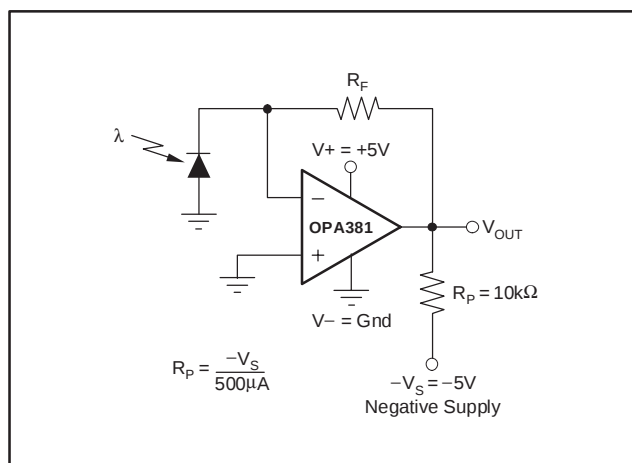

Figure 3. Amplifier with Pull-Down Resistor to Achieve $V_{OUT} = 0V$
(1) High temperature operating life characterization of zero-drift op amps applying the techniques used in the OPA381 have repeatedly demonstrated randomly distributed variation approximately equal to measurement repeatability of $1\mu V$. This consistency gives confidence in the stability and repeatability of these zero-drift techniques.
(2) Tested with output connected only to R_P , a pulldown resistor connected between V_{OUT} and $-5V$, as shown in Figure 3. See also **Applications** section, *Achieving Output Swing to Negative Rail*.
The OPA381 performance results from an internal auto-zero amplifier combined with a high-speed amplifier. The OPA381 has been designed with circuitry to improve overload recovery and settling time over that achieved by a traditional composite approach. It has been specifically designed and characterized to accommodate circuit options to allow 0V output operation (see Figure 3).
The output of the OPA381 can be made to swing to 0V, or slightly below, on a single-supply power source. This extended output swing requires the use of another resistor and an additional negative power supply. A pulldown resistor may be connected between the output and the negative supply to pull the output down to 0V; see Figure 3.